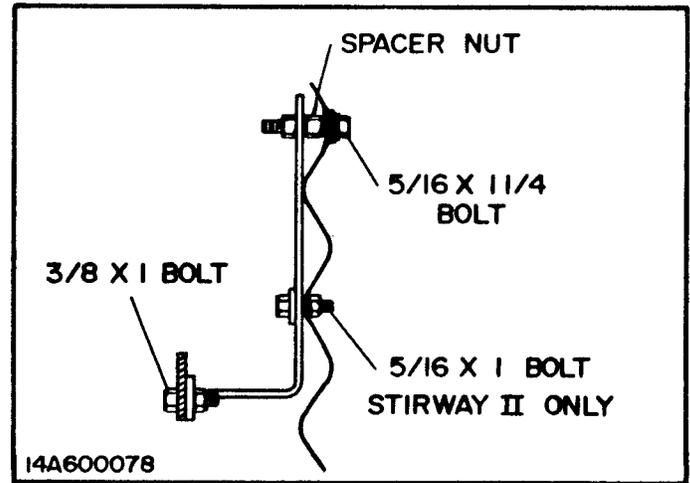

FIG. 1 - TRACK PROFILE - BOLTS
1. Insert 1 1/4" bolts in every other hole around top of bin (approximately 18" spacing), for bins smaller than 30'. For bins 30' and larger, place bolts in every hole (approximately 9" spacing) except at seam. Tighten 5/16" spacer nuts onto bolts. Figs. 1 & 2.
and place a second nut on each top bolt. Do not tighten at this time. Figs. 1 and 2.
5. On Stirway II only, the lower hole on each track bracket should be drilled or punched through bin sheet using bracket as pattern. Use a 5/16" bolt no longer than 1" or else point this lower bolt outwards in order not to obstruct the movement of the machine. This should be done after all track sections are in place. Fig. 1
6. Tighten nuts on top bolts of brackets. Fig. 1.
1. Mount first segment of track in bin. Fig. 1. Punch or drill holes in top sheet to match brackets. On Stirway II only, use both holes per bracket. Bolt top (and bottom) bolts in place on each bracket of the first track section. Figs. 1 and 2.